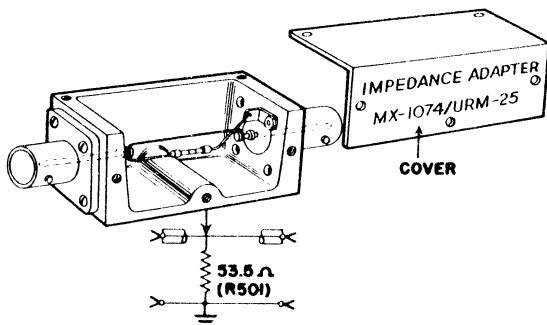

Figure 2-10. Impedance Adapter MX-1074/URM-25
f. When the 52 ohm cable assembly (W-104) is plugged into the X MULT RF OUTPUT jack (J-102), and terminated properly (53.5 ohms), no standing waves will be present. An IMPEDANCE ADAPTER MX-1074/URM-25 consisting of a 53.5 ohm composition resistor (R-501) contained in a rectangular aluminum case (See figure 2-10) is supplied with the equipment. This unit has one UG-185/U connector at each end and is inserted between the receiver under test and the receiver end of cable W-104 when the receiver load impedance is at least ten times the generator output impedance (i.e. approximately 500 ohms).